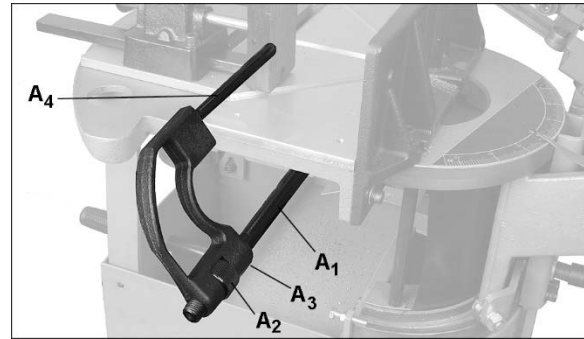

Figure 5-2: installing work stop
3. Install work stop rod (A₁, Figure 5-2) into hole beneath table and tighten set screw. Install work stop onto rod threads by rotating collar (A₂). Secure position of work stop by tightening set screw (A₃) onto rod flat.